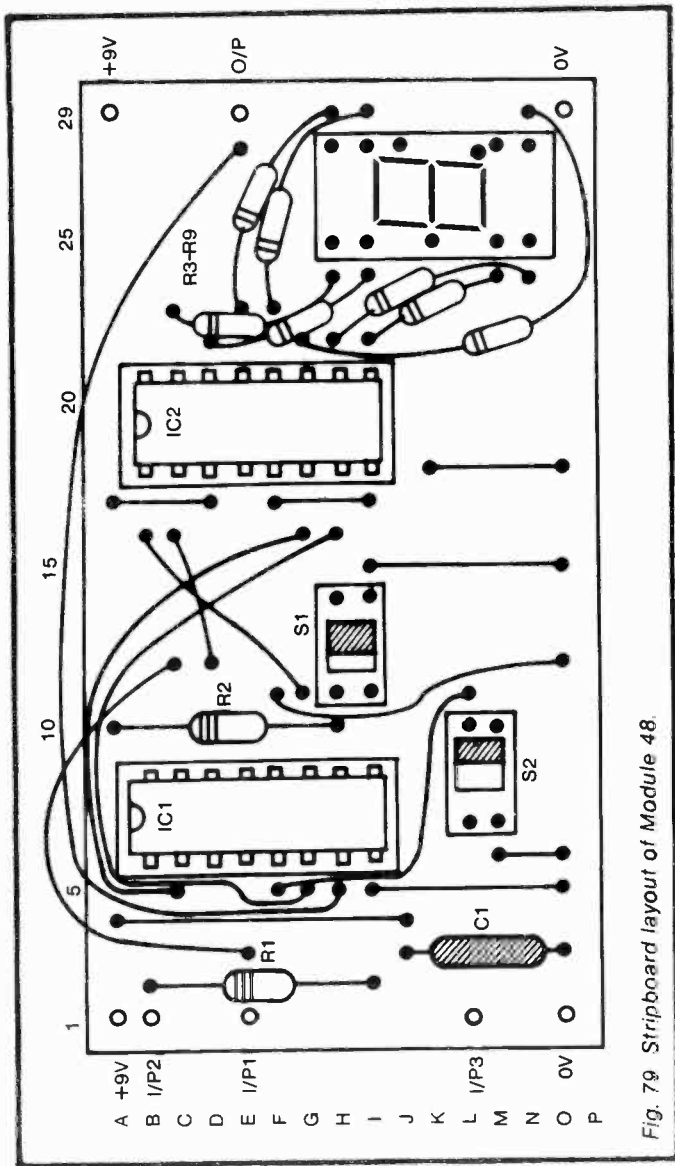

Fig. 79 Stripboard layout of Module 48.
*Stripboard layout:* see Figure 79. Cut strips beneath the board at B7 to D7, F7 to H7, J5, I10, B13 to I13, H15, B19 to I19, E26, H23, I23, H26, I26, L9, M9, M26, N26, L13, M13. Solder blobs join A9 to B9, A21 to B21, D18 to E18, D6 to E6, E9 to F9, H14 to I14, L10 to M10.